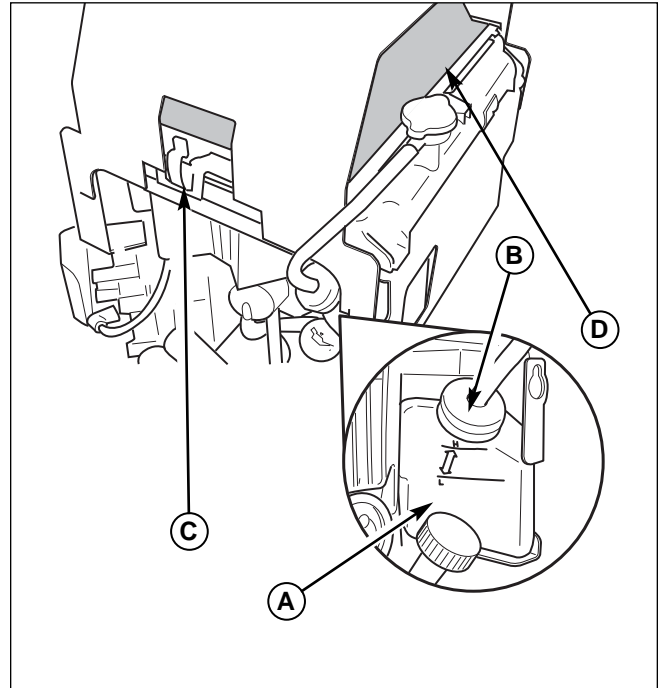

Figure 18. Radiator, Screen & Overflow Bottle
1. Check the coolant level only at the overflow reservoir (A, Figure 18). The coolant level should be between the "H" and "L" marks.
2. If the coolant level is insufficient, remove the cap (B) from the reservoir and add coolant to the "H" mark.